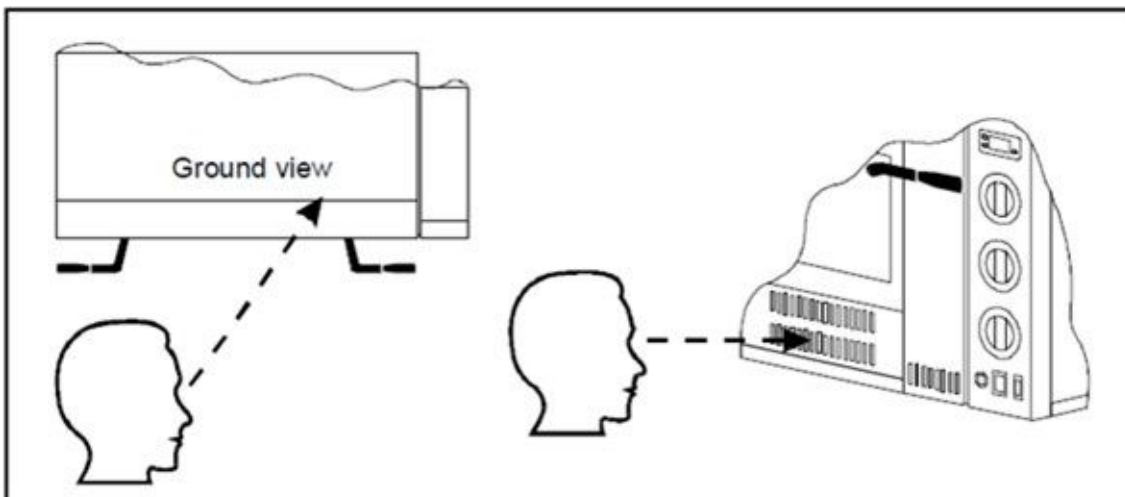

FIG.15
- 5) Turn the knob of the main gas supply valve (fig.14-ref.4) to the position keep the knob pressed and at the same time press the piezoelectric ignition of the pilot light several times (fig.14-ref.5) . As soon as the pilot lights, release the knob. the pilot must remain lit if not repeat the operation. The pilot light can be controlled through the openings located on the right side of the front panel (fig.3-ref.2) by looking inwards observing an inclination of approximately 45° to the right (FIG.15);